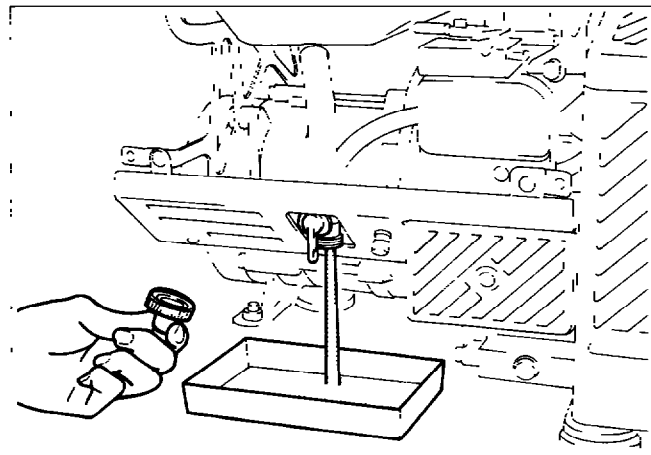

Fig. 10-9
| 6. | Fuel pipe and plug (Disconnection) | <p>(1) Discharge fuel from the tank.</p> <ol style="list-style-type: none"> 1. Shut the fuel strainer. 2. Remove the strainer cup. 3. Put a vessel to receive fuel under the strainer and open the fuel cock to discharge fuel. (See Fig. 10-9.) 4. Attach the strainer cup to the strainer body | <p>Use utmost care about fire hazard.</p> <p>Wipe off spilt fuel thoroughly.</p> <p>Do not lose the filler screen.</p> | |